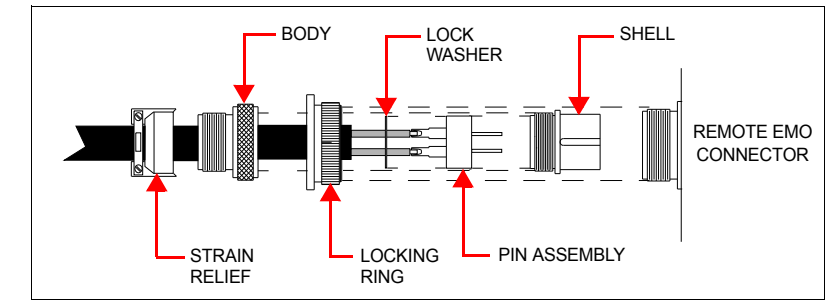

Figure 3: EMO Cable Connections
- 6) Connect the **EMO remote** cable, if available. See *Figure 1E* and *Figure 3*.